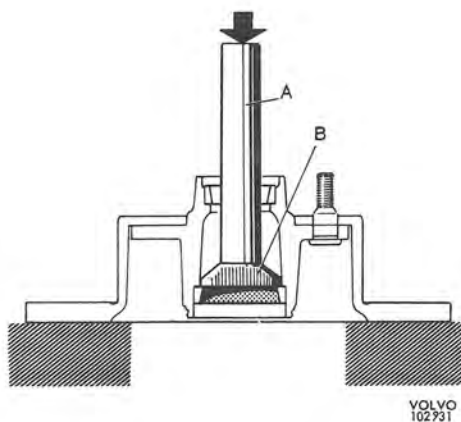

Fig. 7-22. Removing inner bearing ring
5. Remove the bearing rings. Use drift SVO 2724 (Fig. 7-22) for the inner bearing ring and drift SVO 2725 (Fig. 7-23) for the outer bearing ring together with standard handle SVO 1801.